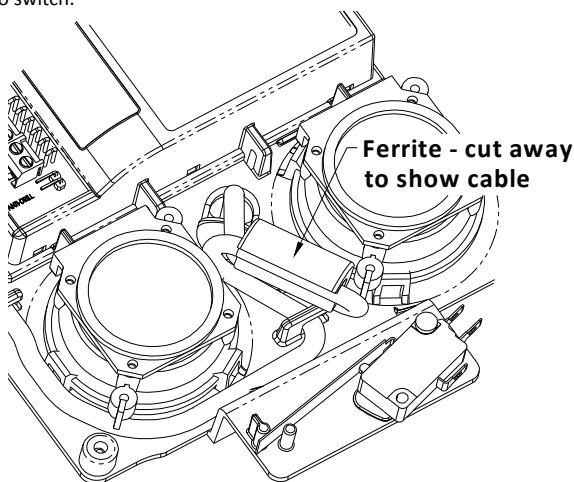

Fig 5: Fitting of Ferrite
- 6) Fit ferrite onto cable as shown in figure 5, ensuring that it does not interfere with the operation of the micro switch.